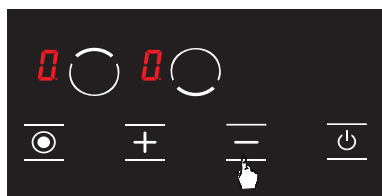

Figure 22
3. Press the **Minus** key again. (see Fig. 22) This shall be performed right after the 2nd step. Child lock is deactivated permanently. In other words, child lock shall continue to be deactivated even if the unit is turned off and on again.